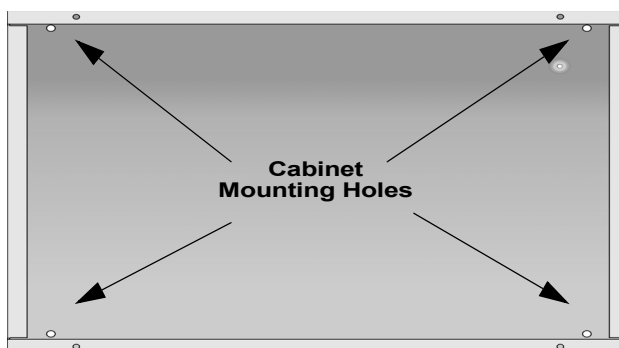

Figure 4.5 RBB Cabinet Mounting Holes
1. Mount the accessory cabinet. See Figure 4.5 for the four cabinet mounting holes.